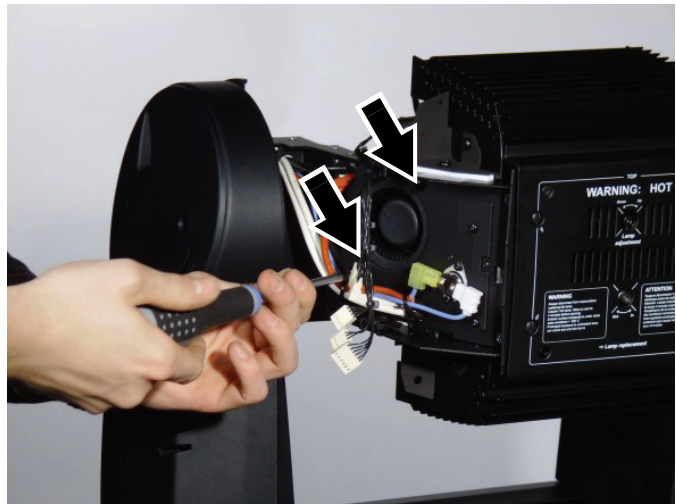

Figure 47
52. See Figure 47. Cut cable ties as necessary and pull the lamp fan power leads back towards the fans on both sides of the head until the leads hang free. Remove the fan mounting screws (arrowed, PZ2, P/N 08200107) and remove both the lamp cooling fans complete with their metal heat shields including the thermoswitch mounted on the right-hand heat shield. Keep the screws for re-use later. The fans with their heat shields and thermoswitch are no longer required, as new items are supplied in the Upgrade Kit.